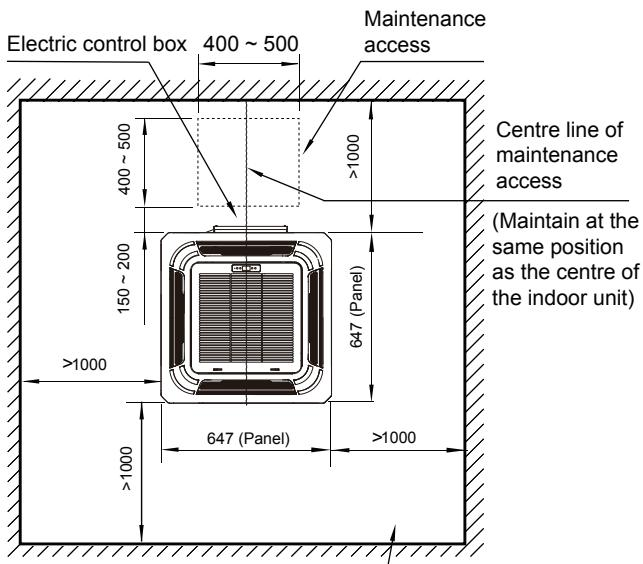
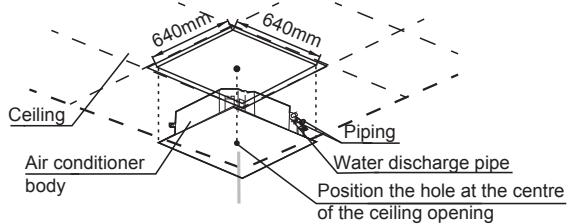

Figure 2.1
Figure 3.5
- Drill 640 mm x 640 mm square holes into the ceiling based on the layout of the installation board (accessory 2). See Figure 3.5. See Figure 2.1 for maintenance access.